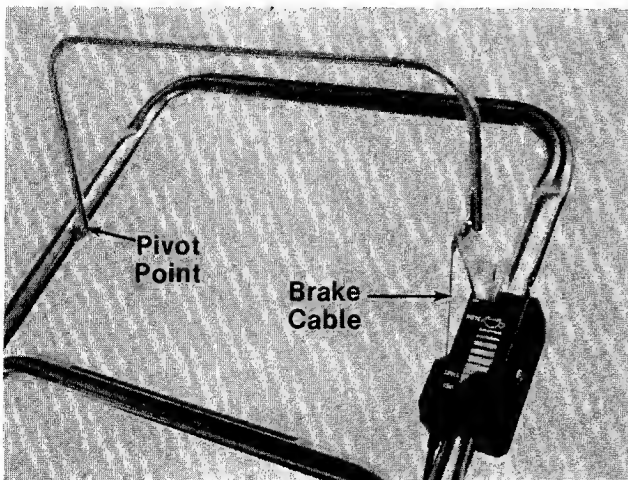

FIGURE 18.
**Blade Control**—Lubricate the pivot points on the blade control handle and the brake cable at least once a season with light oil. See figure 18. The blade control must operate freely in both directions.